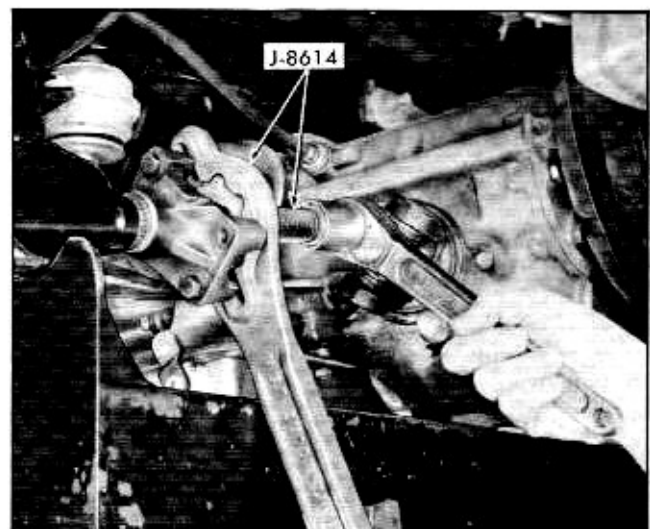

Fig. 4-7 Removing Flange From Axle Shaft
6. Remove capscrew, lock washer, and flat washer, securing flange to axle shaft. Using tool J-8614 to hold flange (Fig. 4-7).
7. Remove flange from axle shaft using tool J-8614 (Fig. 4-7).